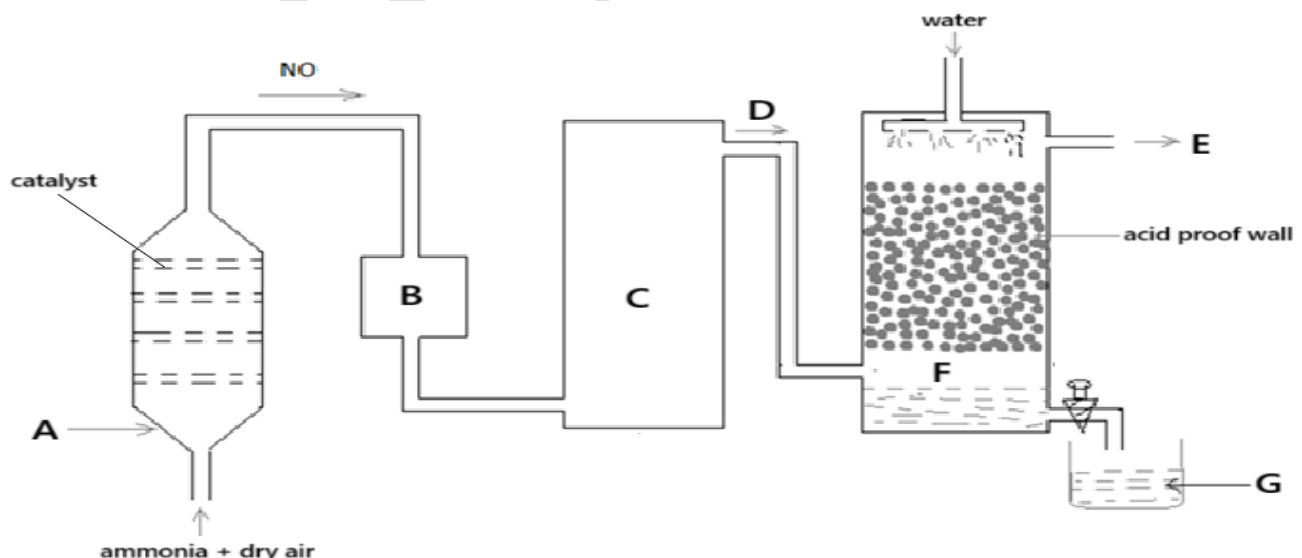

Figure 1: Nitric Acid *manufacturing Process*
Consider Figure 1 below which indicates the Process Flow Diagram of Company PTY LTD:
- i. In the Process Flow Diagram in Figure 1 above, raw materials required to produce the final product includes:
- ii. The Ammonia used during the Nitric Acid production process in Figure 1 could be obtained from